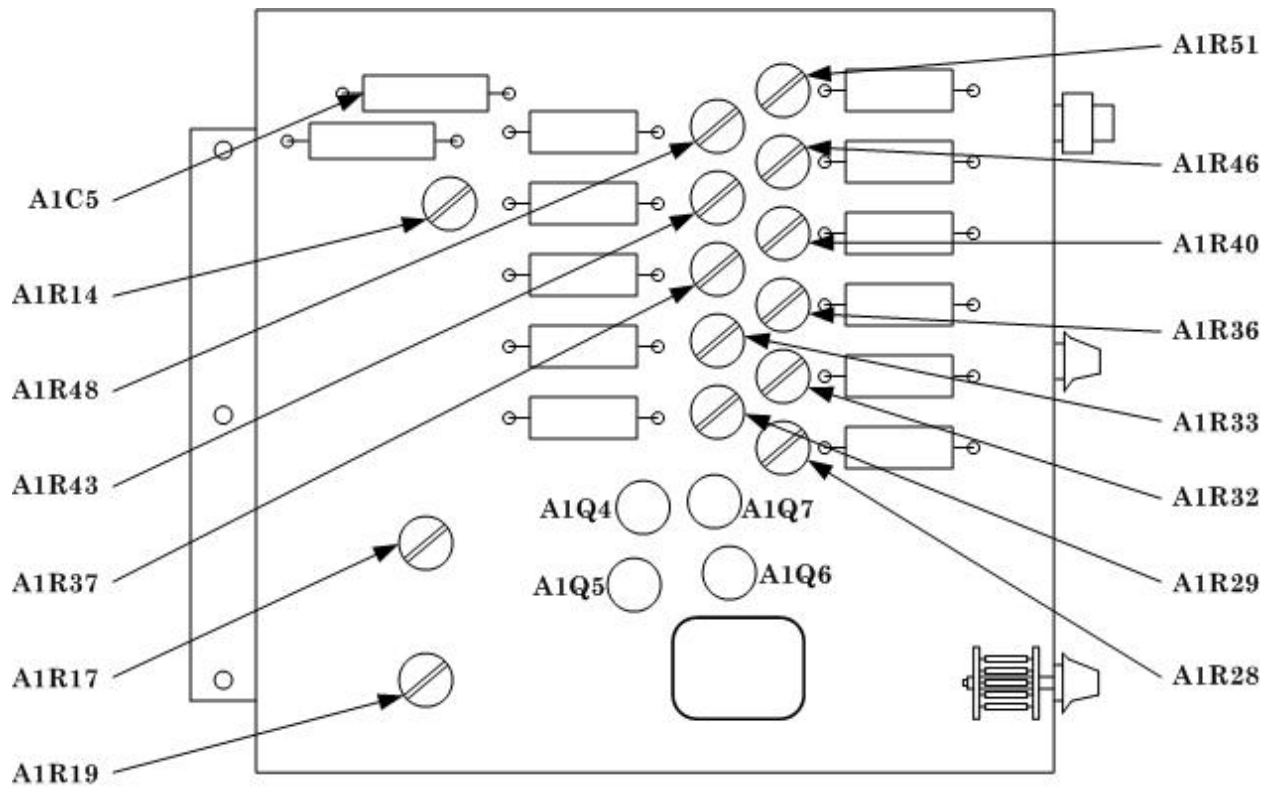
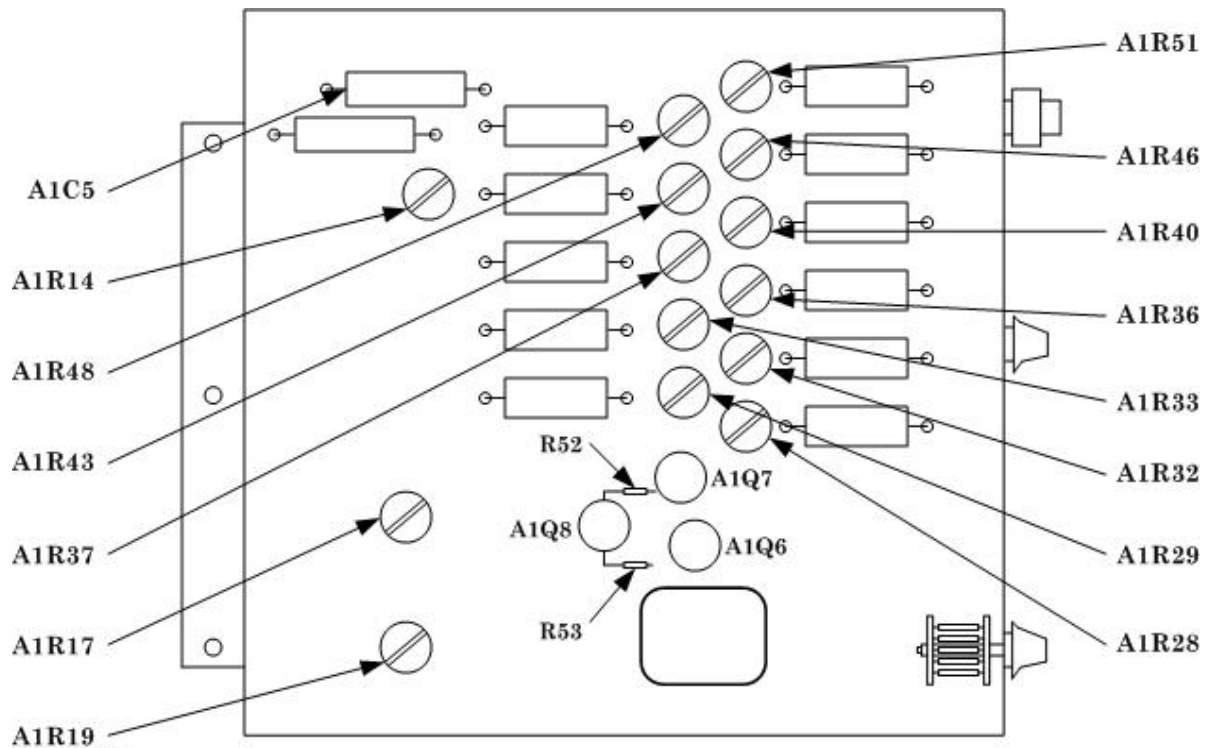

Figure 1. Calibrator assembly board A1 top view. (S/N prefixed 610 or 613).
Figure 2. Calibrator assembly board A1 top view (S/N prefixed 739 or 811A).
- b. Adjustments.** Adjust A1R28 (fig. 1 or 2) to obtain an indication of 632.46 mV on multimeter (R).
- (1) Set **FUNCTION** switch to **CURRENT OFF**.
- (2) Connect multimeter across capacitor A1C5 (fig. 1 or 2). If multimeter does not indicate between -29.95 and -30.05 Vdc, perform **b** (1) below.
- (3) For TIs with serial numbers prefixed 610 or 613, connect multimeter between negative side of A1C5 (fig. 1) and base of Q5 (fig. 1). For TIs with serial numbers prefixed 739 or 811A, connect multimeter between negative side of A1C5 (fig. 2) and base of
Q8 (fig. 2) which is at junction with R53 (fig. 2). If multimeter does not indicate between +17.748 and 17.752 Vdc, perform **b** (2) below.
- (1) Adjust A1R14 (fig. 1 or 2) to obtain multimeter indication of -30.00 Vdc (R).
- (2) Adjust A1R17 (fig. 1 or 2) to obtain indication of +17.750 Vdc on multimeter (R).
- (3) Adjust A1R19 (fig. 1 or 2) to obtain indication of +12.551 V dc on multimeter (R).